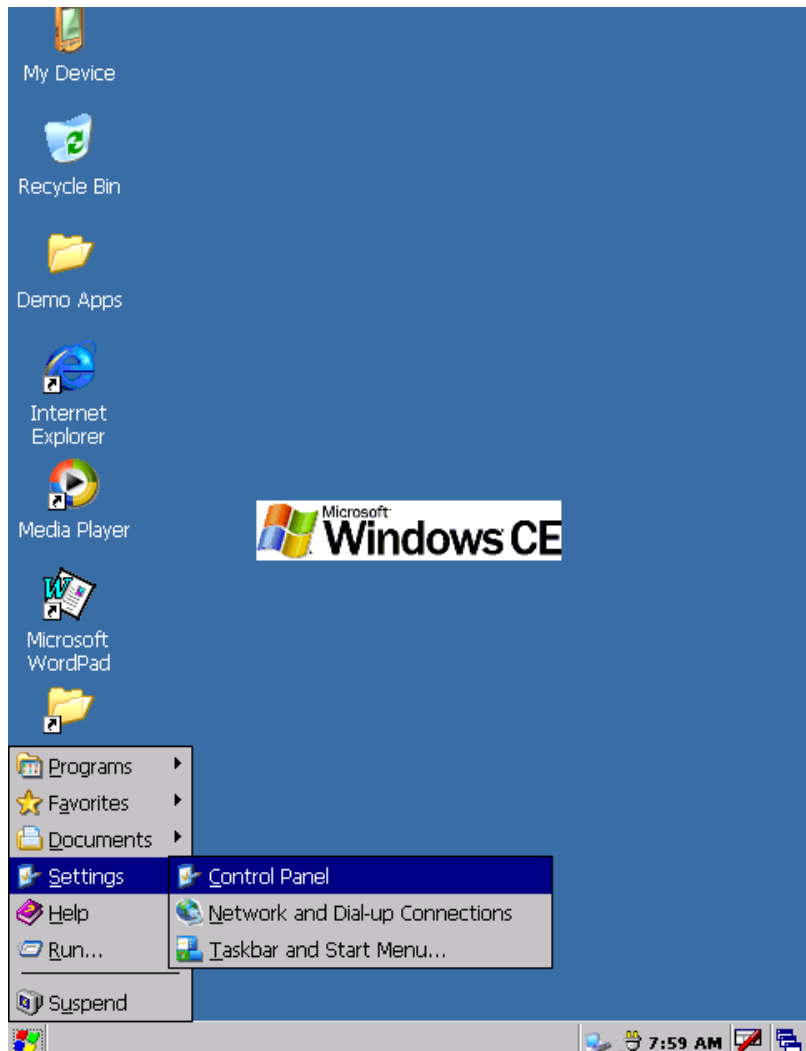

Figure 4.12 Selecting the Control Panel
5. The power settings on the Control Panel must be modified. To access the Control Panel window, click the Windows logo at the lower left corner and go to Settings Control Panel (Figure 4.12).